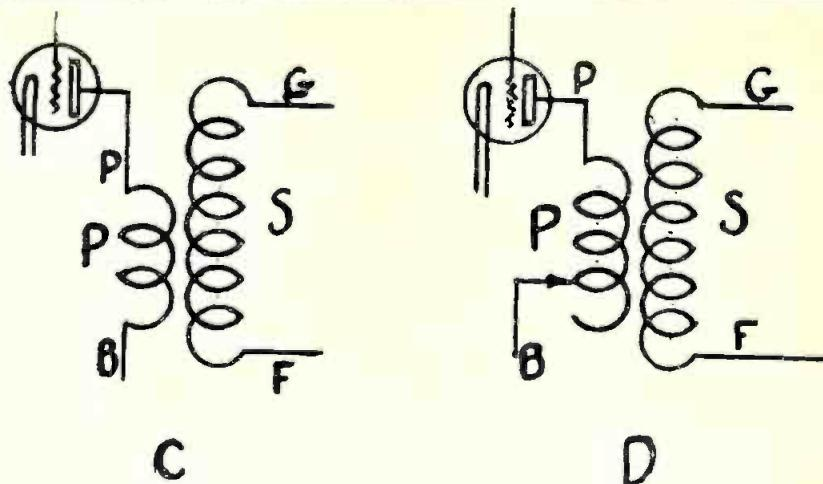

FIG. 2
Figs. 1 and 2. Fig. 1 shows the typical curve of plate current voltage, while Fig. 2 shows the typical curves of grid and plate characteristics, the result of tests described in the accompanying article.
TO make a grid characteristic curve—figure 2, the plate voltage will be set at 40 volts—the grid bias voltage will be adjusted until the meter (GM) shows 0 with the switch on point (+). The reading of the milliammeter (MA) will be located on the chart as before—and readings for each fraction of a volt will be spotted—as in figure two. The 40 volt curve showed a plate current of 1.2 milliamperes and at 1 volt (+) it read 1.5 milliamperes and so on to 2 volts (+) it read 1.8 milliamperes. Going back to 0 volts and shifting the switch (BS) to a negative bias, the readings were taken the same as above, except they were inversely proportional to the grid voltage,
Fig. 2—How radio frequency tubes are coupled to each other. At "C" is the universally popular "fixed primary" type. This, however, is efficient only over a moderate wave band. Varying the coupling from about 5 to 12 turns, as at "B," gives better results on all wavelengths.
In Fig. 2, "C," is shown such a coupler in circuit form. The secondary, of course, is of the proper size to cover the broadcast band in conjunction with the variable condenser that tunes it. The primary is as large as possible, but not so large that it passes sufficient energy back to the grid to cause oscillation of the tube. In practise, such an ideal transformer is out of the question, for it is perfectly efficient for only one wavelength or a very narrow band of wavelengths.
In "D," Fig. 2, is shown the variable primary coupler. Here a tap switch is connected to change the coupling for long and short waves. Such a plan is of most value in sets having only one stage of tuned radio frequency and a detector, either crystal or tube. With the average coupling coil, a fixed primary of about 6 to 8 turns is adopted. Many tuned R. F. reflex sets are made up in this manner. If they are good for long waves, oscillations prevent good reception on short waves, and if excellent on short waves, the long wave stations come in poorly, although with no trace of oscillation.
Fig. 2. Interior view of the super-autodyne. The instrument designations will be found in the text. The sockets, from left to right, are: V1, autodyne; V2, 1st R. F.; V3, 2nd R. F.; V4, 2nd Det.; V5, 1st A. F.; V6, 2nd A. F.; Socket shelves may also be procured for UV199 or C299 tubes.